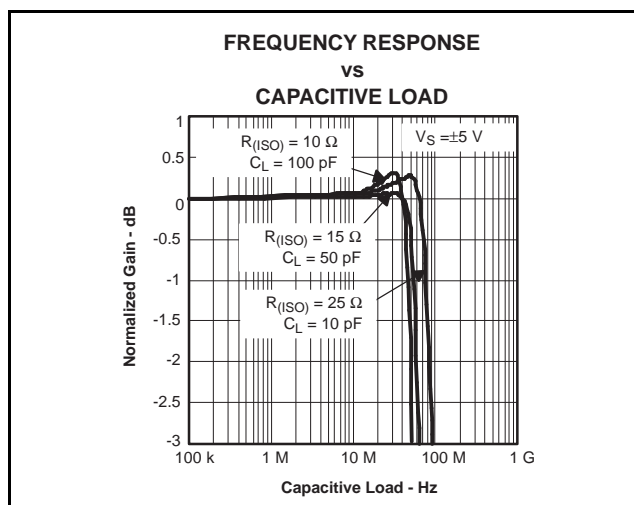

Figure 88. Isolation Resistor Diagram
4. **Connections to other wideband devices on the board may be made with short direct traces or through onboard transmission lines.** For short connections, consider the trace and the input to the next device as a lumped capacitive load. Relatively wide traces (50 mils to 100 mils) should be used, preferably with ground and power planes opened up around them. Estimate the total capacitive load and set R_{ISO} from the plot of recommended R_{ISO} vs capacitive load (See Figure 88). Low parasitic capacitive loads (< 4 pF) may not need an R_{ISO} , since the THS4211 is nominally compensated to operate with a 2-pF parasitic load. Higher parasitic capacitive loads without an R_{ISO} are allowed as the signal gain increases (increasing the unloaded phase margin). If a long trace is required, and the 6-dB signal loss intrinsic to a doubly-terminated transmission line is acceptable, implement a matched impedance transmission line using microstrip or stripline techniques (consult an ECL design handbook for microstrip and stripline
layout techniques). A 50- Ω environment is normally not necessary onboard, and in fact a higher impedance environment improves distortion as shown in the distortion versus load plots. With a characteristic board trace impedance defined on the basis of board material and trace dimensions, a matching series resistor into the trace from the output of the THS4211 is used as well as a terminating shunt resistor at the input of the destination device. Remember also that the terminating impedance is the parallel combination of the shunt resistor and the input impedance of the destination device: this total effective impedance should be set to match the trace impedance. If the 6-dB attenuation of a doubly-terminated transmission line is unacceptable, a long trace can be series-terminated at the source end only. Treat the trace as a capacitive load in this case and set the series resistor value as shown in the plot of R_{ISO} vs capacitive load (See Figure 88). This setting does not preserve signal integrity or a doubly-terminated line. If the input impedance of the destination device is low, there is some signal attenuation due to the voltage divider formed by the series output into the terminating impedance.